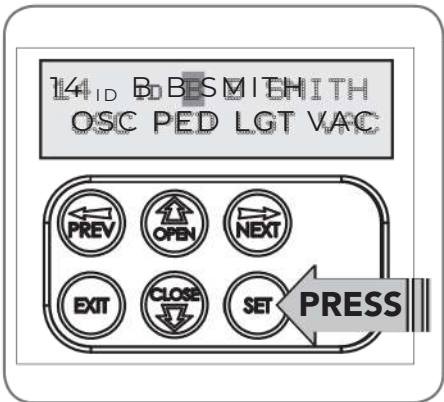

Fig G.5
- e. Press SET to record changes (Fig. G.5).